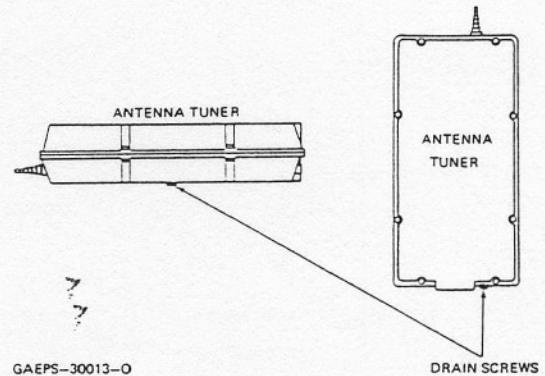

Figure 9. Mounting Positions
3.3 DRAIN SCREW REMOVAL (Refer to Figure 9.)